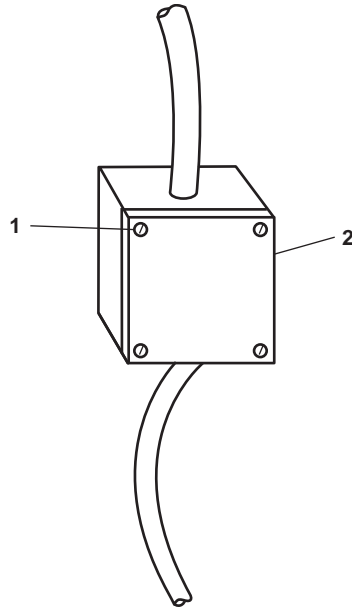

Figure 1. Connection Box (Typical)
2. Remove the screws (figure 1, item 1) that secure the connection box cover (figure 1, item 2).
3. Remove the connection box cover (figure 1, item 2).
5. Determine which terminals connect the TLI transmitter cable assembly to the connection box and which terminals connect the connection box to the TLI receivers. Label the correct location of all cable terminals in the connection box (figure 1, item 2).